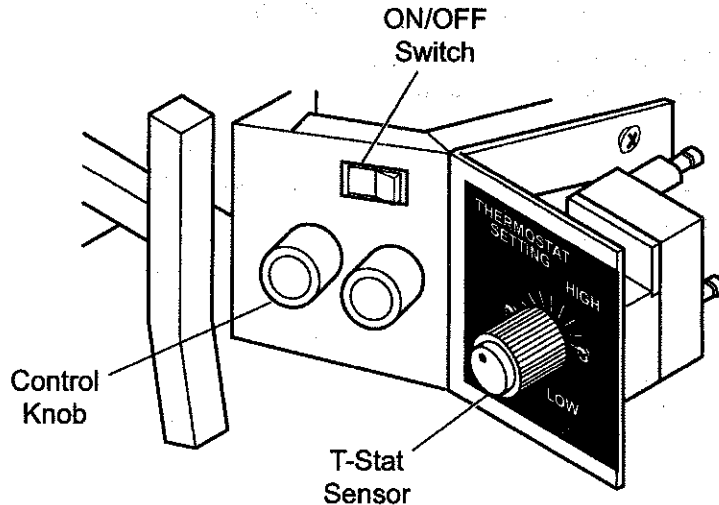

Figure 25 - Control Knob in "ON" Position and ON/OFF Switch in "OFF" Position
2. With control knob in the "ON" position make sure the ON/OFF switch is in the "OFF" position. See Figure 25.